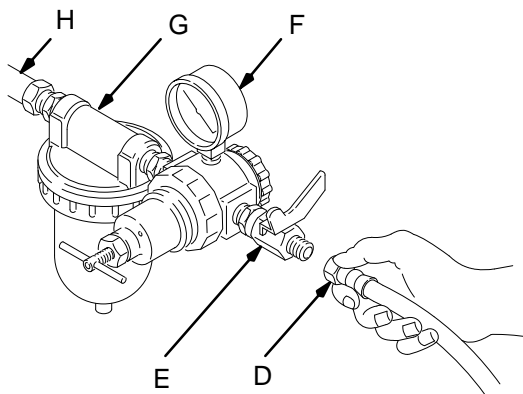

Fig. 2 _____ 01990
- You must install an air pressure regulator (F) on the gun air line to control air pressure to the gun. See Fig. 2.
- If your regulated air source does not have a filter, install an air filter (G) on the air line to ensure a dry, clean air supply to the gun. Dirt and moisture can ruin the appearance of your finished workpiece. See Fig. 2.
- A. Connect the air hose (D) to the 1/4 npsm gun air inlet (C).
- B. Connect the other end of the air hose (D) to a regulated air supply line (H).
NOTE: Fig. 2 shows the filter (G) air regulator (F), and air shut-off valve (E) on the air supply line.